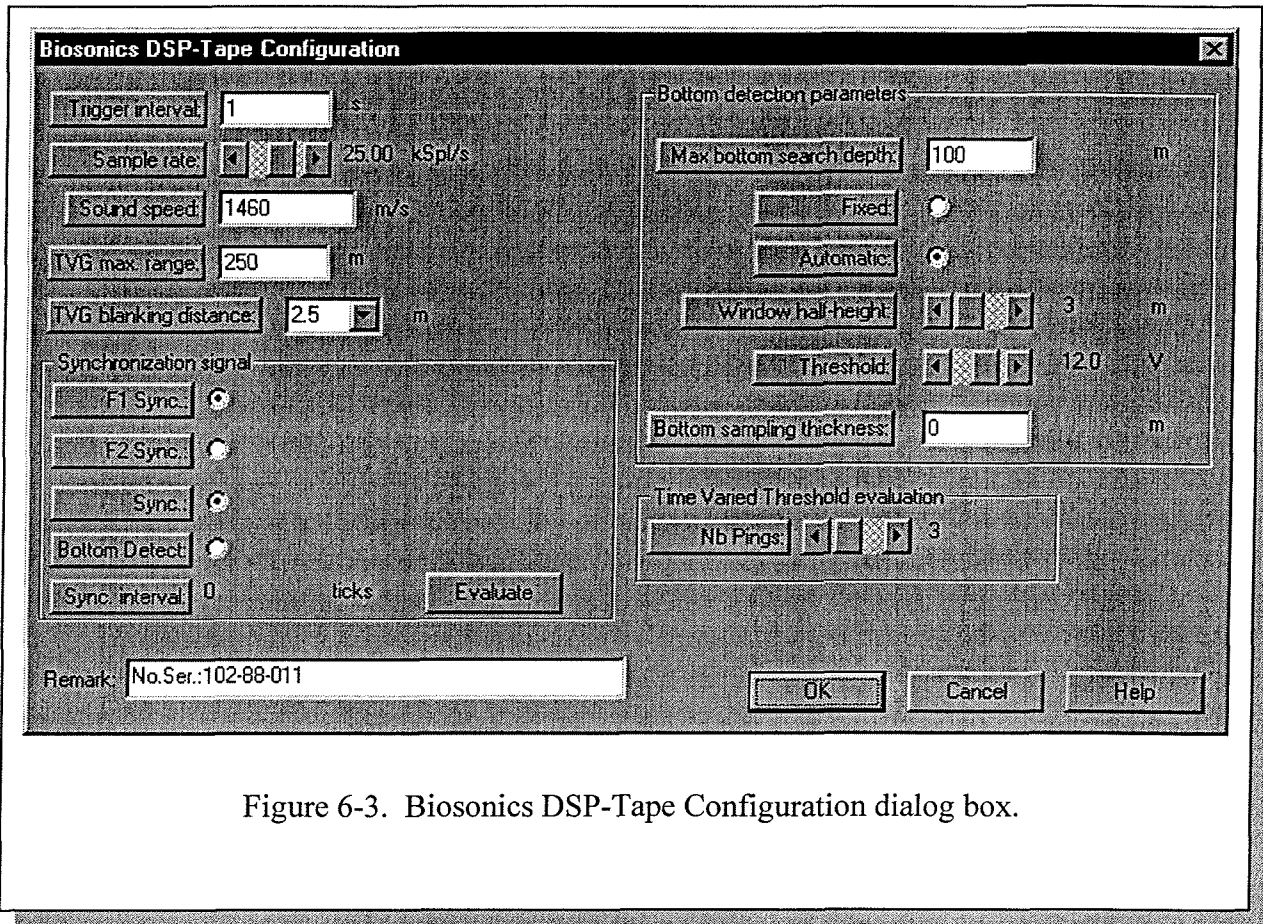

Figure 6-3. Biosonics DSP-Tape Configuration dialog box.
6.2.2 Biosonics DSP-Tape Configuration (Figure 6-3.)